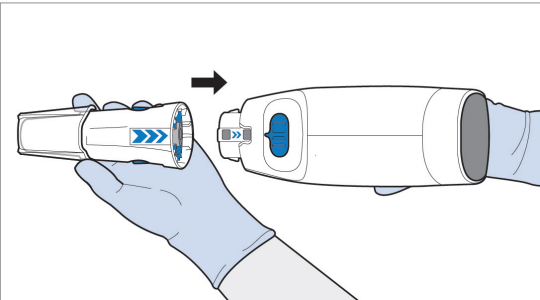

Figure 55 Attach Array to Handset
5. Attach the assembled Array with the VOCERYQ Cartridge to the Handset (see Figure 55).